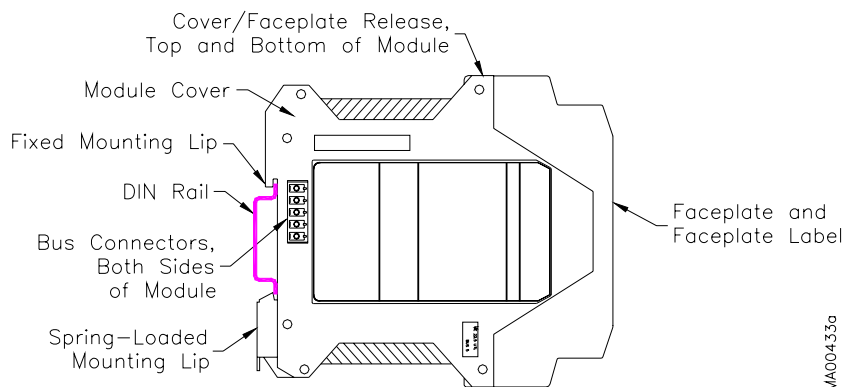

Figure 4 Module Features
3. Remove the faceplate/circuit board assembly by locating a rectangular recess near the numbered terminals on the top of the module cover; see the photographs below and Figure 4 on page 15. With a small flat blade screwdriver, press the tab in the recess inward and pull that corner of the faceplate outward slightly. Repeat this process at the bottom of the module. Carefully pull the faceplate/circuit board assembly from the cover.
At each installation site, the transceiver and I/O modules are interconnected by built-in bus connectors; see Figure 4 below. Each module has male bus connectors on one side and female bus connectors on the other. When mounting modules on a DIN rail, be sure to correctly orient modules so they interconnect and the module faceplates are oriented for easy reading. Refer to the following procedures to install modules.
2. Hook the fixed mounting lips, see Figure 4, on the DIN rail.